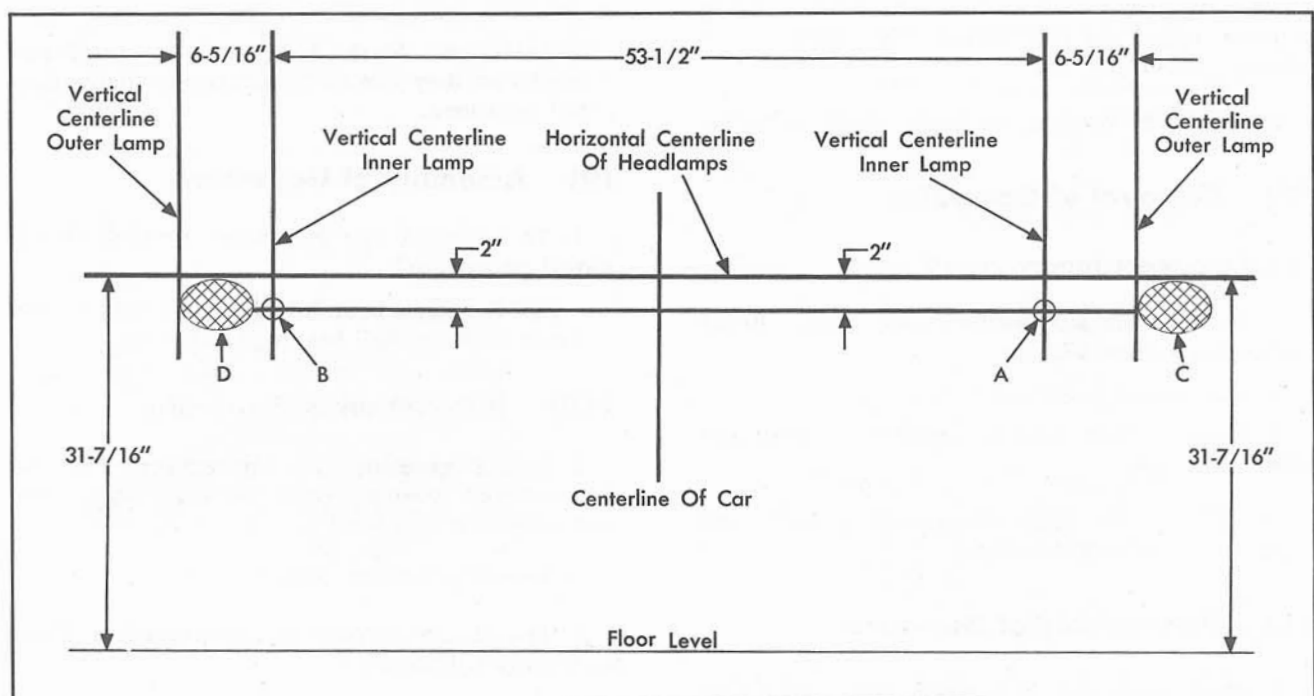

Fig. 12-14 Headlamp Aiming
Make a headlamp aiming screen according to the dimensions and layout shown in Fig. 12-14.
6. Cover left side headlamps and right side outer lamp and adjust right inner lamp as required until hot spot centers at point "A" on screen, Fig. 12-14.
7. Cover right side headlamps and left side outer lamp and adjust left inner lamp as required until hot spot centers at point "B" on screen, Fig. 12-14.
9. Cover left side headlamps and adjust right outer lamp as required until top of hot spot "C" is on horizontal centerline of headlamps and left edge of hot spot is on vertical centerline of outer lamp, Fig. 12-14.
10. Cover right side headlamps and adjust left outer lamp as required until top of hot spot "D" is on horizontal centerline of headlamps, and left edge of hot spot is on vertical centerline of outer lamp, Fig. 12-14.
(12) Fog Lamp Aiming